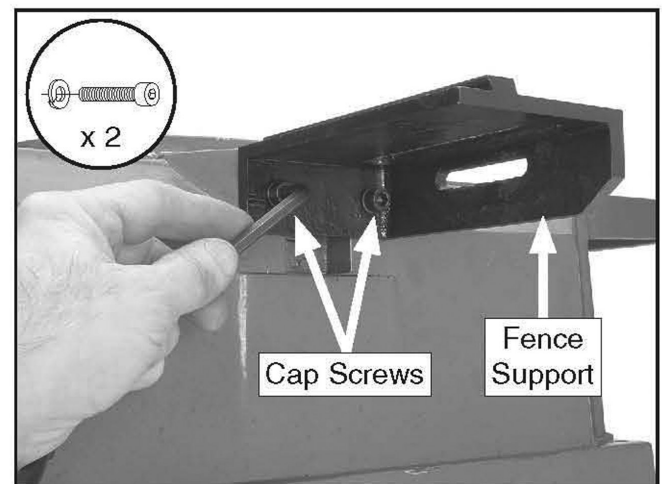

Figure 11. Attaching the fence support to the bed assembly.
1. Use (2) M8-1.25 x 20 cap screws and (2) 8mm lock washers to attach fence support to jointer bed (see **Figure 11**).